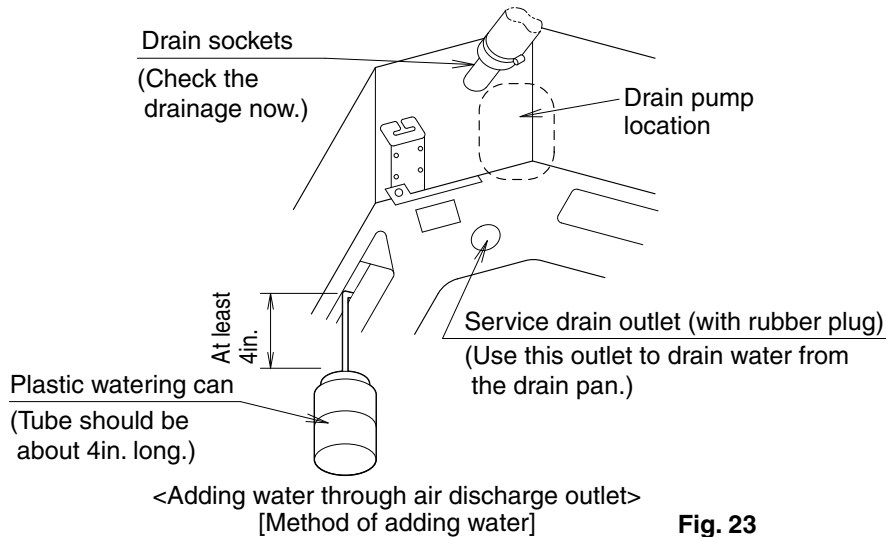
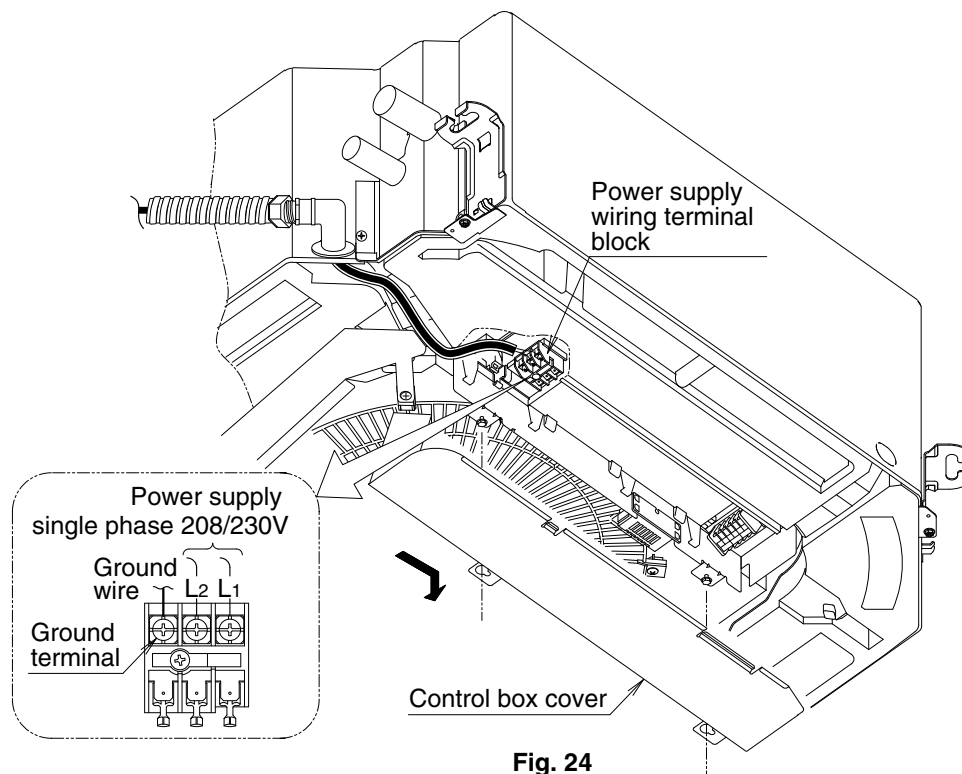

Fig. 23
Fig. 24
- When the power is turned on, the drain pump will operate and you can check the draining of water through the transparent part of the drain socket. (The drain pump will stop automatically in 10 minutes.) After checking the draining of water, mount the thermal insulation material for drainage (14) and thermal insulate the drain socket.
- After confirming drainage (Fig. 23, Fig. 24), turn off the power and remove the power supply.